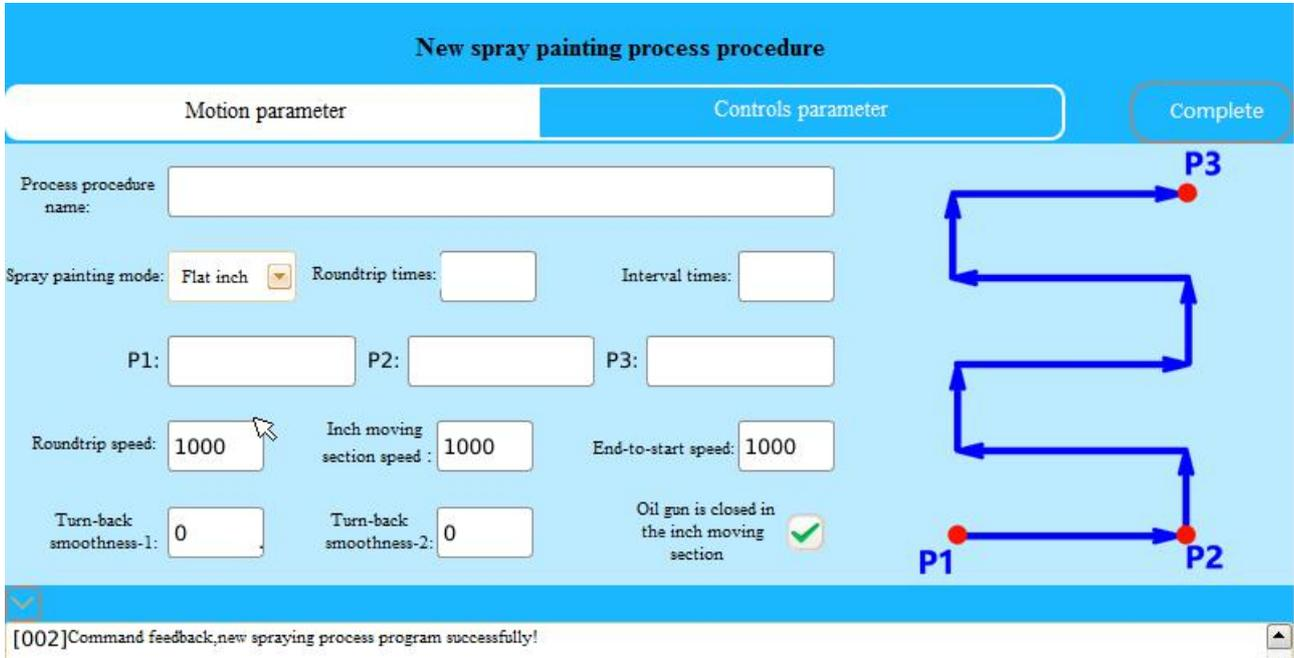

Fig.4.18 “Common plane inch spray painting process” Creation Interface
(3) Motion parameter of the common plane inch spray painting mode: as shown in Fig. 4.18, the spraying mode is basically consistent with the normal plane spray painting mode; only one inch of moving section is used to close the oil gun; after selecting, the oil gun will be closed at the inching position, and then the oil gun is opened again after the inching position.